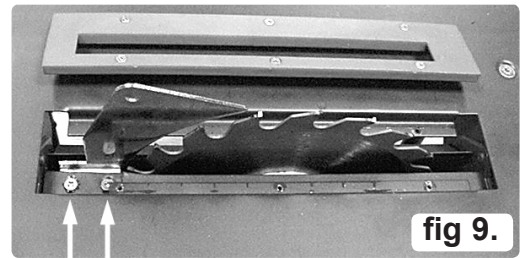

fig 9.
6.4.3 Slacken the two screws indicated in fig.9 until the knife is only just loose and slide it forwards or backwards to set the distance between the knife and the blade. Then place a straight edge alternately either side of the blade to check that the knife is in alignment. (Rest the straight edge on the surface of the blade without it coming into contact with the teeth tips.) Adjust if necessary and then lightly tighten the screws. Recheck the alignment and when satisfied fully tighten.